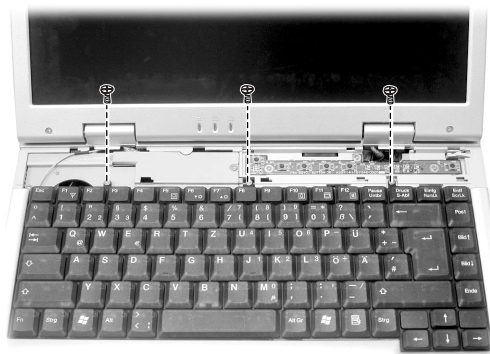

Figure 2-4 Remove three screws
5. Remove three screws fastening keyboard on the base unit cover. (Figure 2-4)